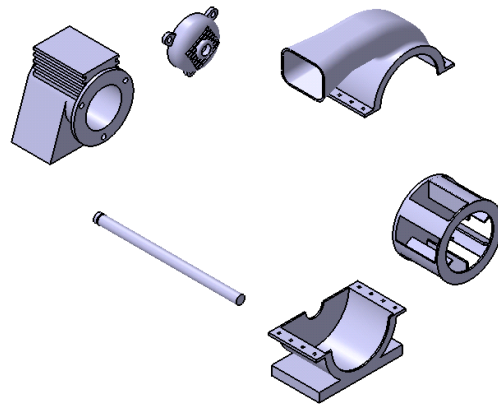

Figure 11-79 The exploded view of Blower assembly
3. Choose the **Apply** button from the **Explode** dialog box to generate the exploded view. The **Information Box** will be displayed. Choose the **OK** button from the **Information Box** to close it. The exploded view of the Blower assembly is shown in Figure 11-79.